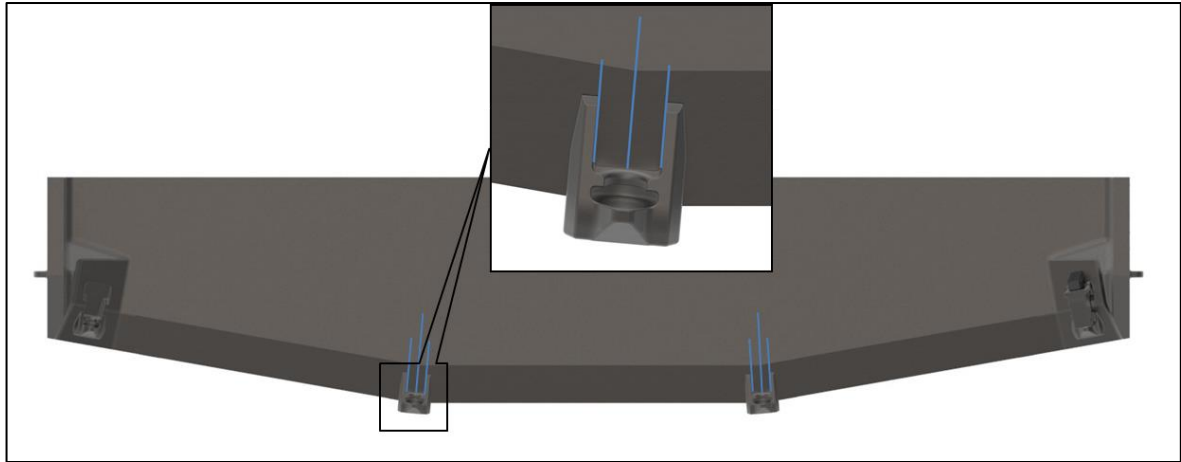

Figure 21 Boss positioning
- 2.13.2. Locate Transition Boss at the spade corner at the pre-marked parallel line locations mentioned in step 2.12. Refer Figure 21. The bottom design feature of the boss will locate the transition point of the lip at the leading edge.